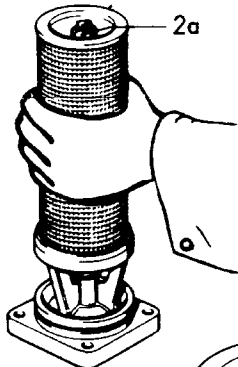

Fig. 2
2. Position the new filter element on the rubber ring 1b and fit the nut 2a with the washer. Tighten the nut 2a so far that it just allows the filter element to be rotated by hand. (Fig. 2.)